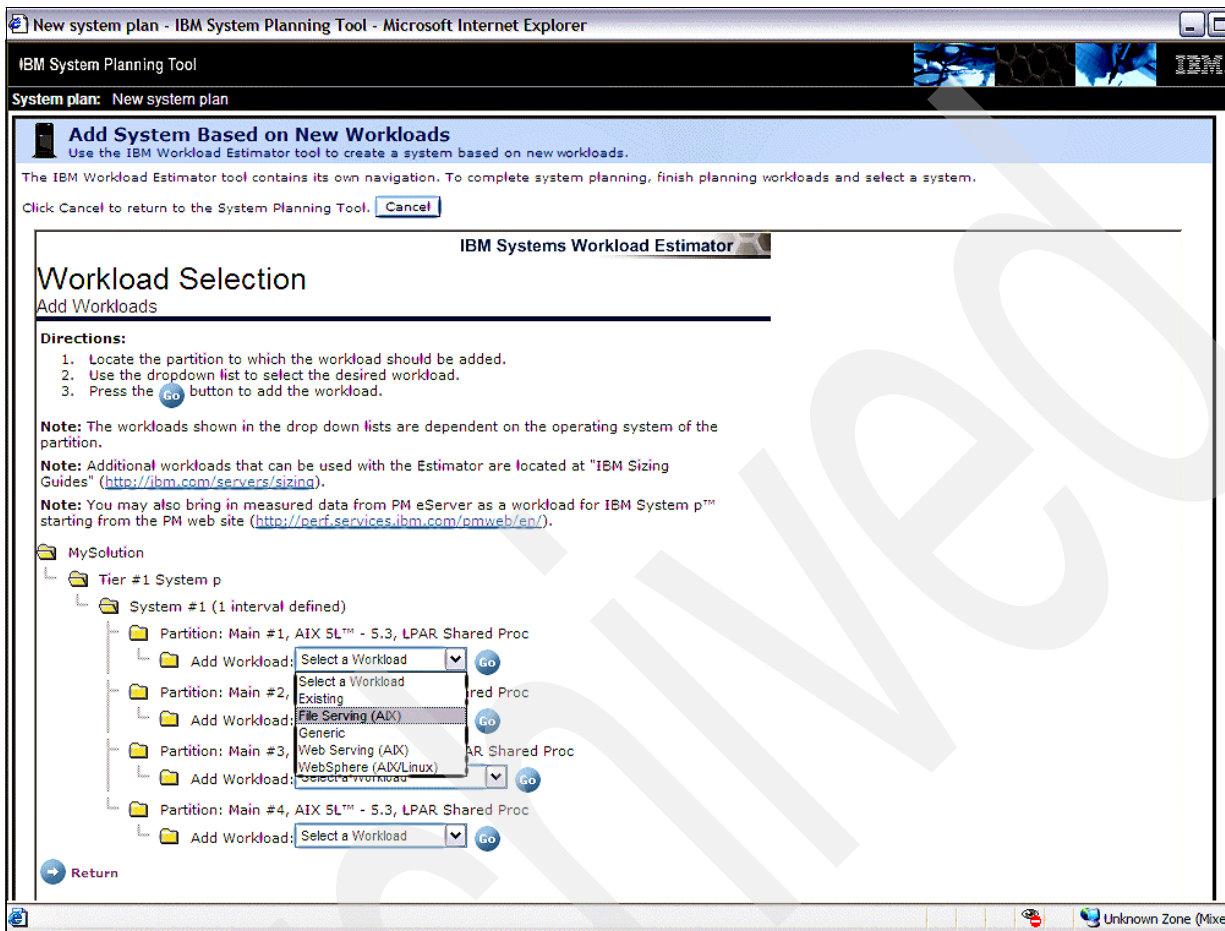

Figure 5-22 Select workload type
- The next thing that has to be selected for each partition is a workload. The selection options are seen on Figure 5-22. You must click **Go** for the selected workload to be accepted. When all workloads are added to each partition, click **Return**.